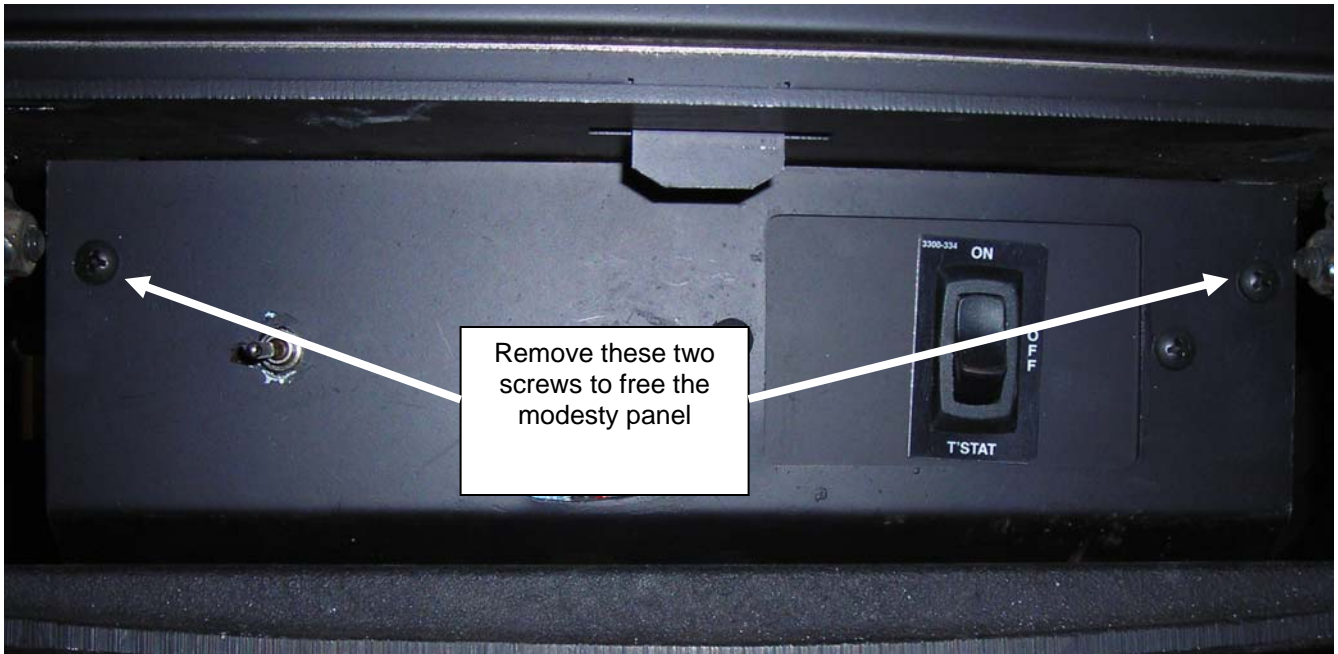

Figure 3
- 10) Remove the control panel by removing the two Phillips head screws on the face of the panel. See Figure 3. Locate the valve inside the control door under the front of the stove. Remove the extension knob if installed.